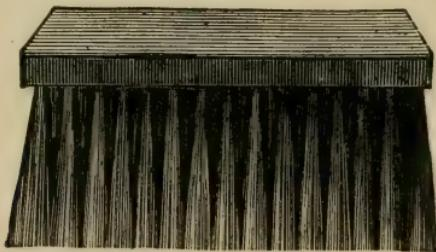

Fig. 2—Extra Wall Stipplers.
b. *Wall stipplers* are long bristle brushes made upon an oblong square head usually in two sizes,  $3\frac{1}{2} \times 8$  and  $3\frac{1}{2} \times 9$  inches. These brushes are used only in following up wall painting to obliterate brush marks and producing a uniform grained finish to the work, by beating the painting evenly all over. The head is a wooden one and the finished tool looks like a mammoth cloth brush. See Fig. 2.